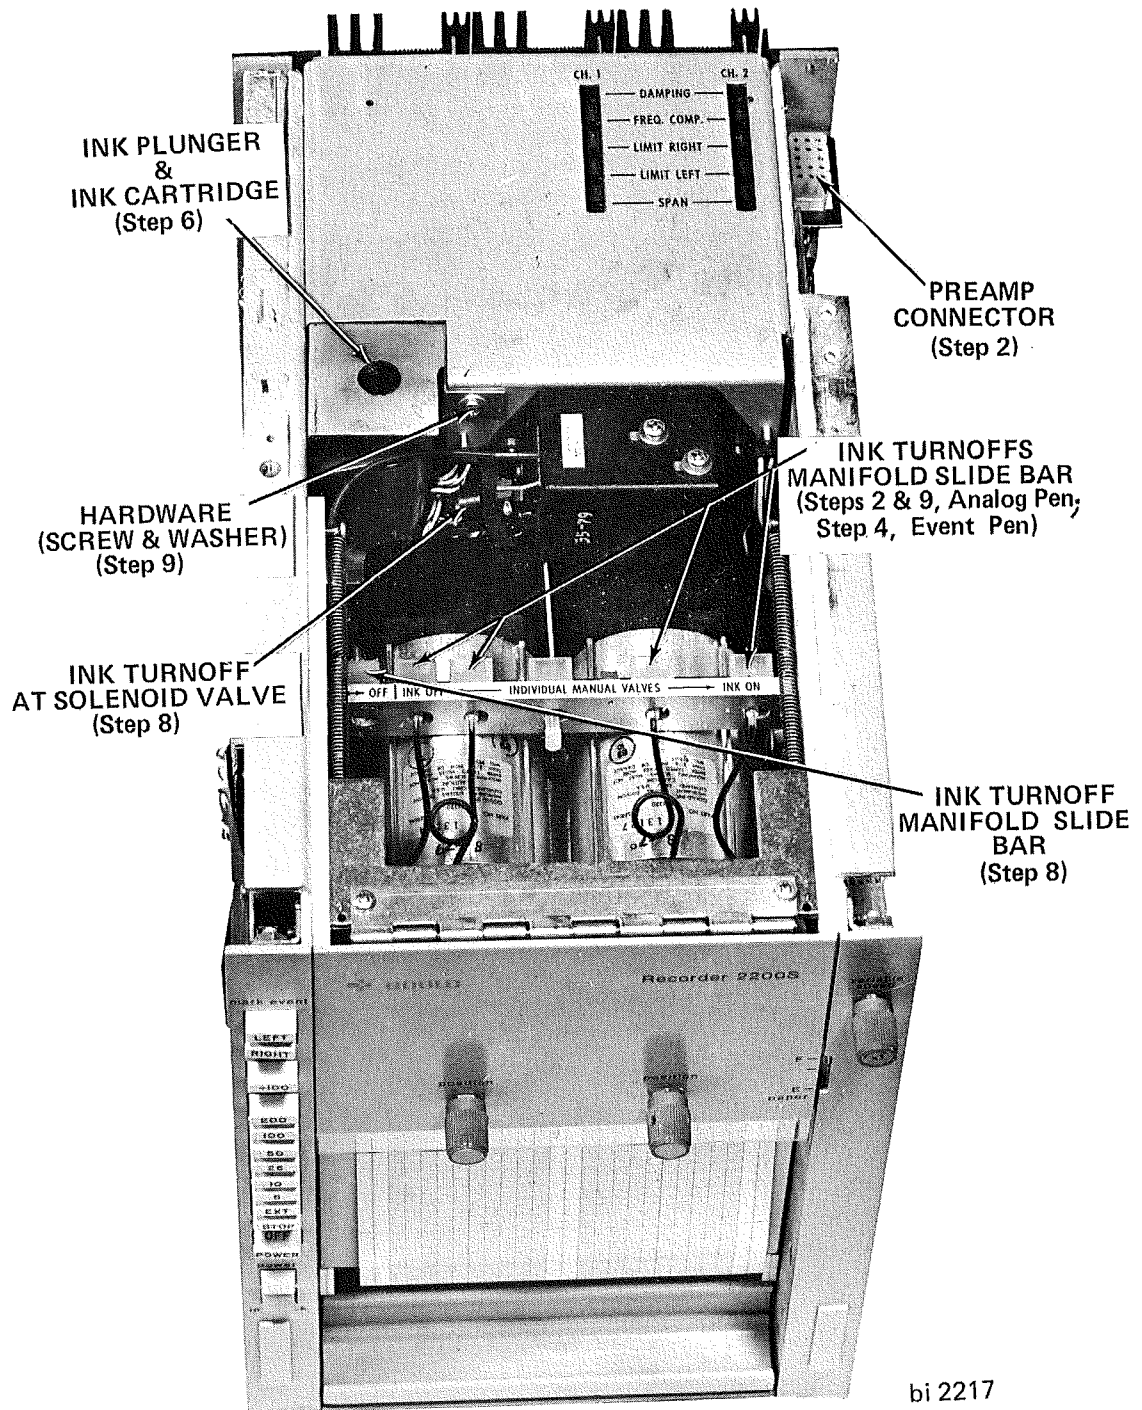

FIGURE 5-4 RECORDER, TOP VIEW
2. If recorder is equipped with preamplifiers disconnect preamp cage connector from recorder connector. (See Figure 5-4 for location.)
6. Ink cartridge is attached to ink plunger assembly located on top of recorder (See Figure 5-4).
9. Remove hardware holding ink plunger assembly to top bracket assembly (Figure 5-4). Carefully pull ink plunger assembly (with ink cartridge) straight up and out of recorder. Retain hardware.
2. Slide ink valve of pen to be changed to "OFF" position. Follow direction of arrows on manifold bar. (See Figure 5-4).